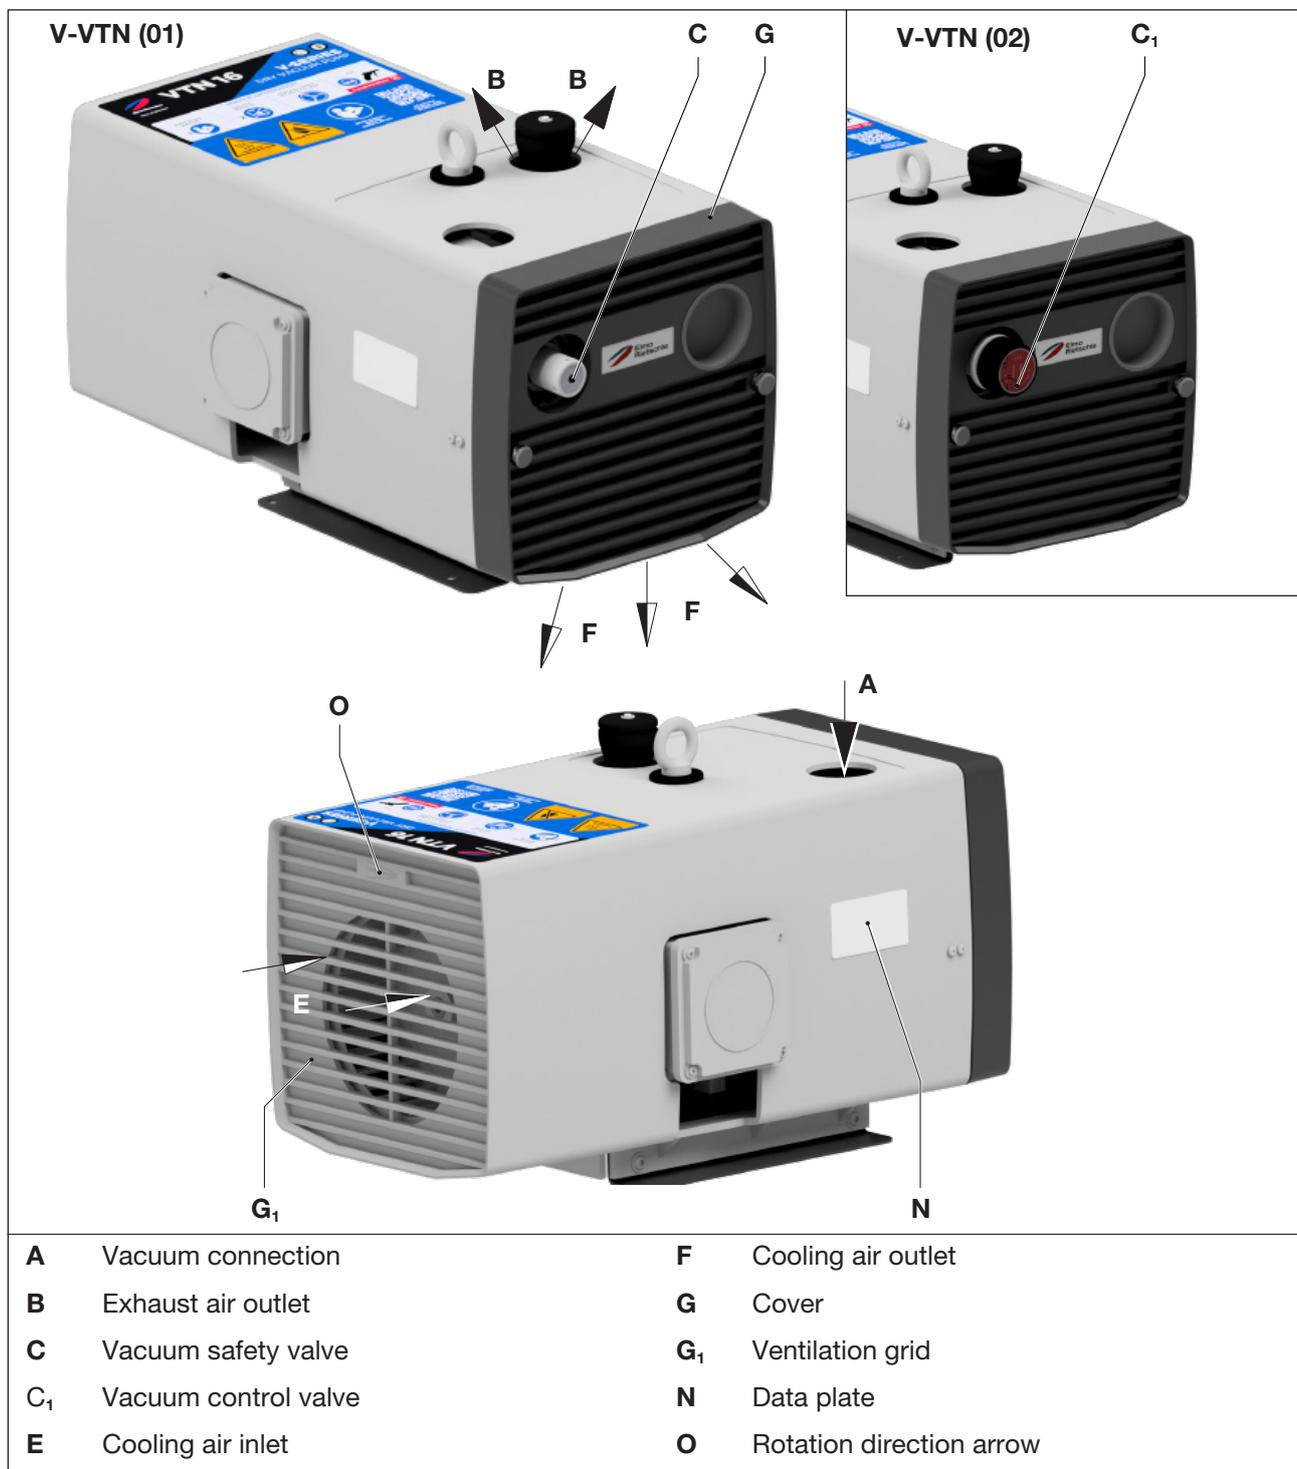

Fig. 2 Vacuum pump V-VTN - variant 01 (with safety valve) / variant 02 (with control valve)
- Cover (Fig. 2/G) and ventilation grid (Fig. 2/Gi) must be readily accessible.
- Remove the blind plug on the inlet connection (Fig. 2/A).
- Connect the pipes with the vacuum connection (Fig. 2/A).
- The exhausted air can be blown out through the exhaust air outlet (Fig. 2/B) or conducted away using a hose or pipeline.
The required vacuum can be regulated by the vacuum control valve (Fig. 2/ C1) as shown on the symbol plate affixed to the rotary knob.
Please find the electrical data of the motor on the data plate (Fig. 2/N) or the motor data plate. The motors comply with DIN EN 60034 and are designed in protection class IP 55 and insulation class F. The appropriate connection diagram is in the terminal box of the motor.